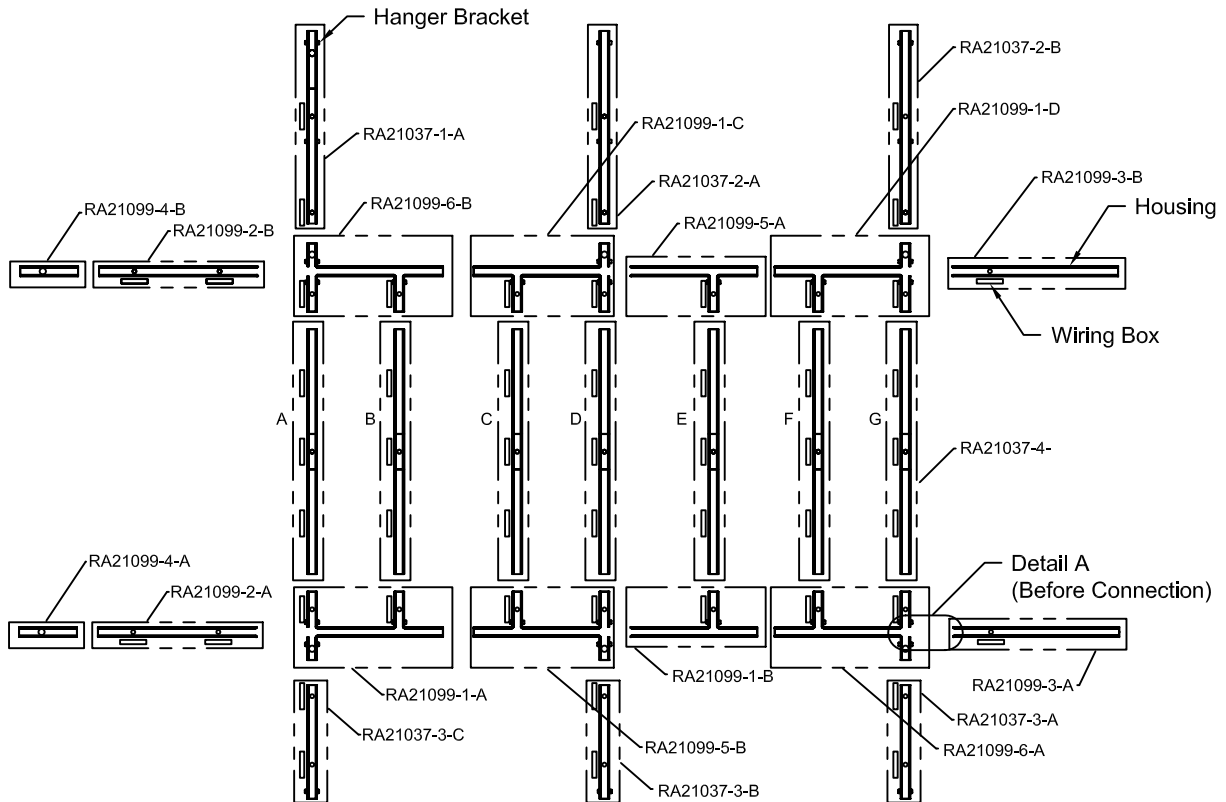

Figure 1
3. Align Modules as shown, lining up ends with Corner Blocks with ends without Corner Blocks. See Fig. 1.